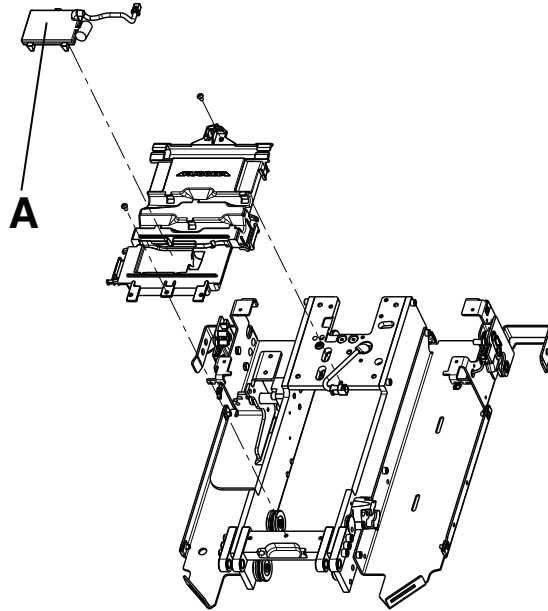

Figure 27 – Communication board assembly
4. Lift the trolley communication board (A) to remove (Figure 27). Discard the communication board.